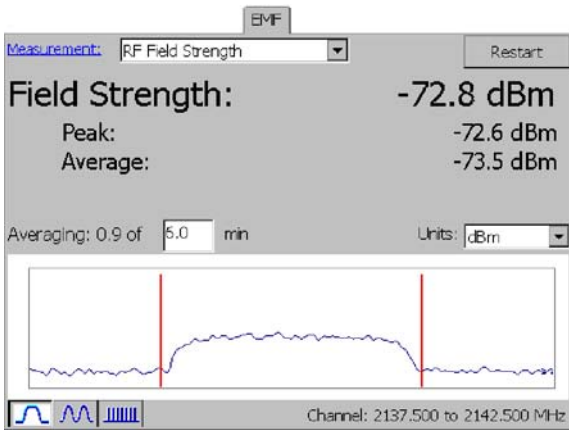

Figure 3-29: EMF RF Field Strength.
7. Select the EMF measurement type in the **Measurement** field (**RF Field Strength** or **WCDMA Field Strength**). See Figure 3-29. The display changes depending on the selected measurement type. The following sections describe each measurement field.